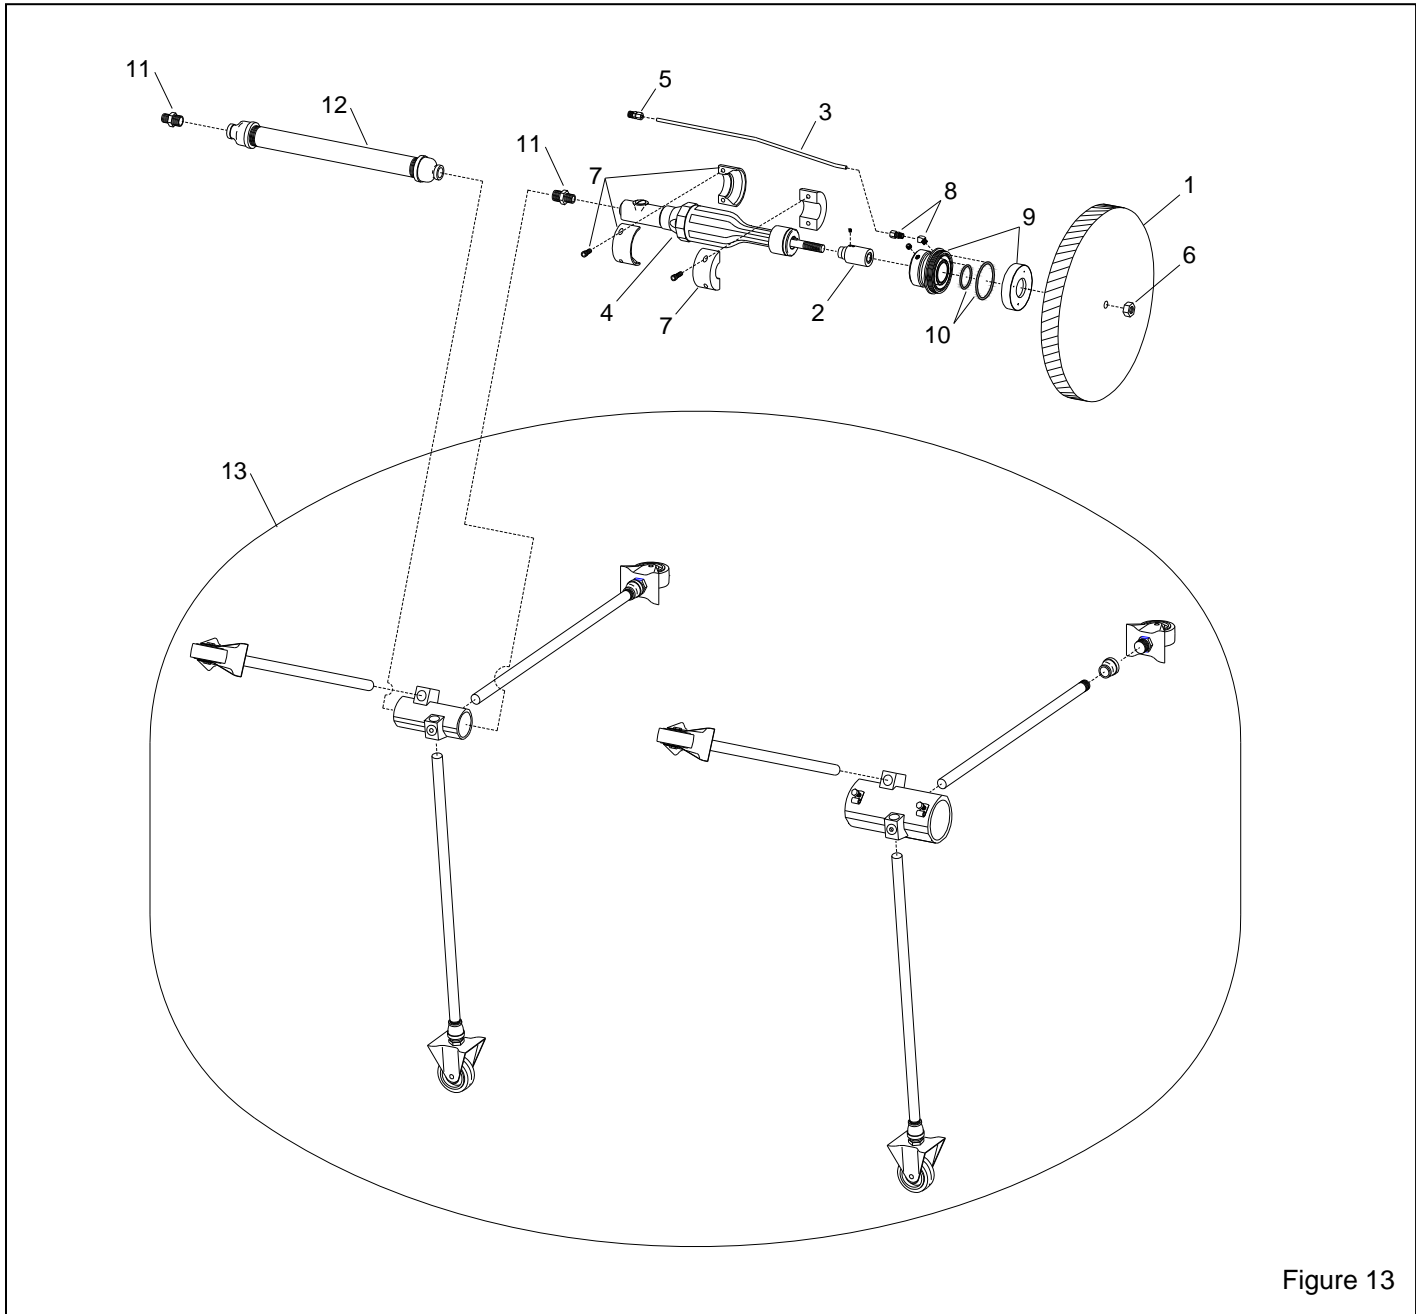

Figure 13
8.7 Spin-Kote 4896 with 16" Head, Figure 13